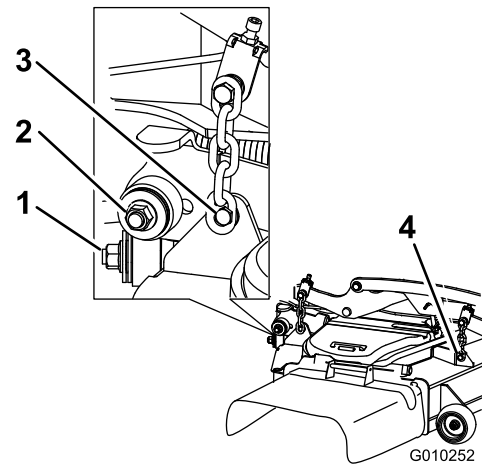

Figure 115
- Remove and retain the hardware on both sides of the deck as shown in Figure 115.